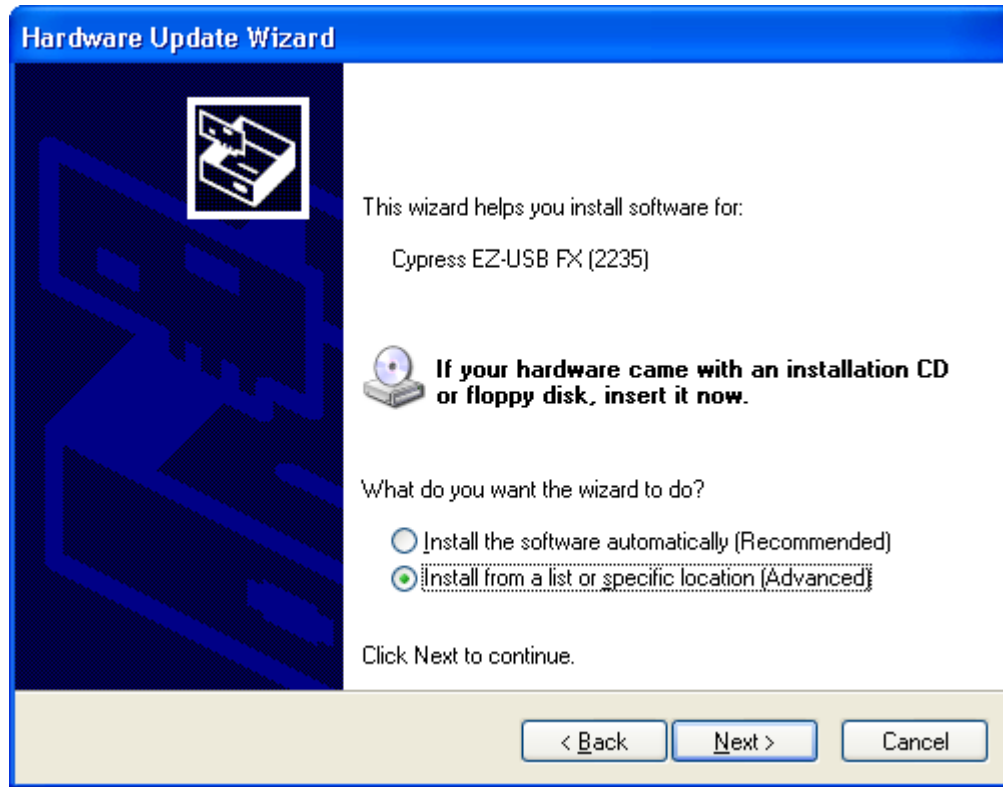

Fig 8: Hardware Update Wizard - Install From a Specific Location
4. Select **Install from a specific location** and click **Next** (see Fig 8).